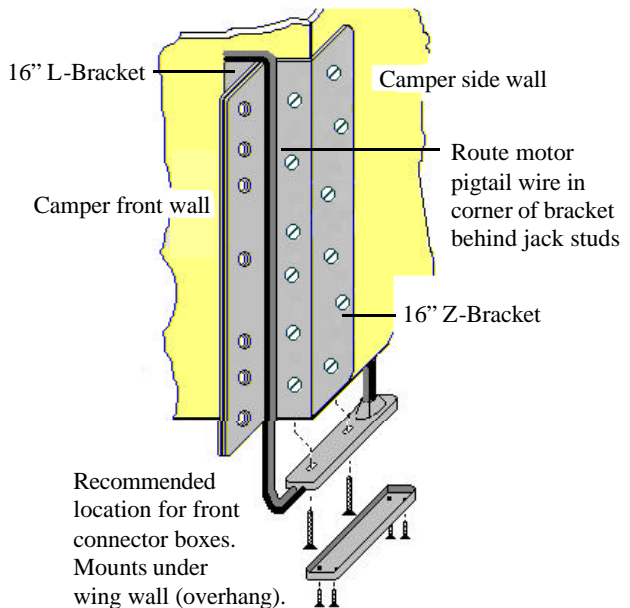
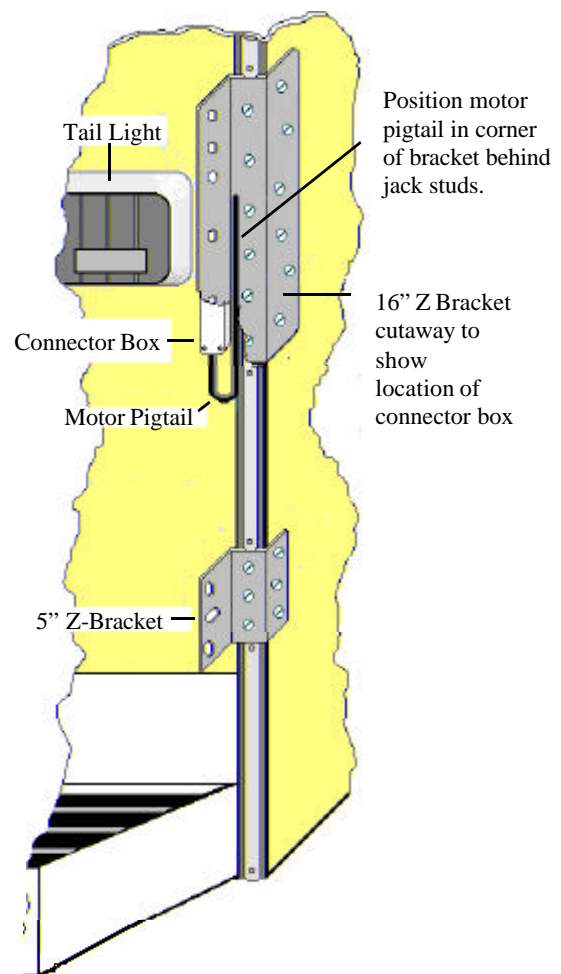

Fig. 1 - Drivers Side Front Corner
Fig. 2 - Passenger Side Rear Corner
Location: The four (4) junction/connector boxes are placed on the outside of the camper at the four corners. For the rear installations, (see fig. 2) they are placed just below the 16" Z mounting bracket. At the front, (see fig. 1) the recommended location is under the overhang or wing wall.
Plug the motor pigtail into the interior motor wires (previously installed) passing through camper wall. Fill hole through camper wall with silicone. Place the 2 halves of the plastic strain relief provided with the connector box, around the motor wires on the camper side of the connector and press firmly into hole. Position connector inside connector box and secure the cover with the four (4) small screws provided. Refer back to fig. 1.